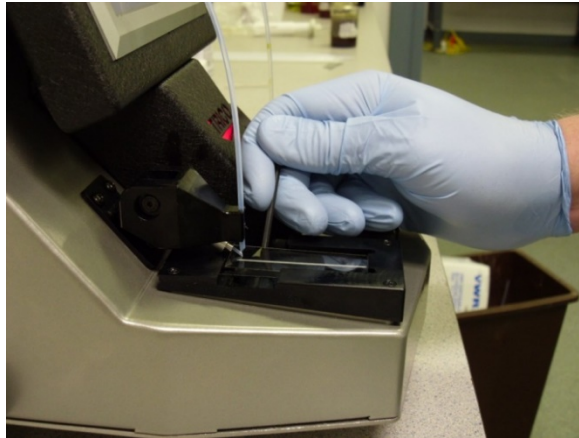

Figure 8.4 – Index Slide on Magnet Assembly
14. Using a pen or small round object, gently push the slide against the suction hole in the vacuum drain assembly. If the slide is too long and does not sit flat, replace with a new slide. If the slide is forced in place, the slide will shatter (refer to Figure 8.4).